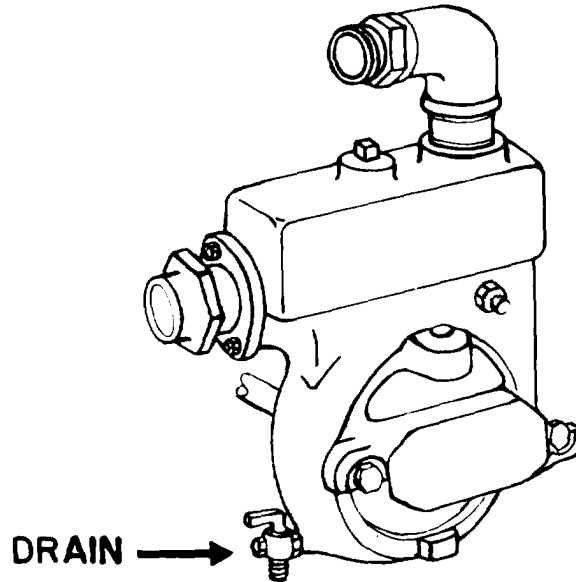

Figure 2-5. Pump Draining Instructions.
(1) Keep fuel tank full to prevent condensation. Drain and service fuel filter more frequently than under normal conditions (paragraph 3-5.2).
(2) Before starting engine, remove any accumulated ice or snow from spark plugs and wiring.
(3) Make sure Inlet Air Temperature shutter on engine is set for winter operation.
(4) Run engine at low speed to warm to operating temperature before applying full load.
(5) Lubricate engine in accordance with current lubrication order LO 5-2805-256-14.
(6) Fill pump with warm water to prevent freezing at starting.
(7) Drain pump immediately after operation as shown in figure 2-5.
(1) Fill pump with warm water to prevent freezing at starting.
(2) Drain pump immediately after operation as shown in figure 2-5.